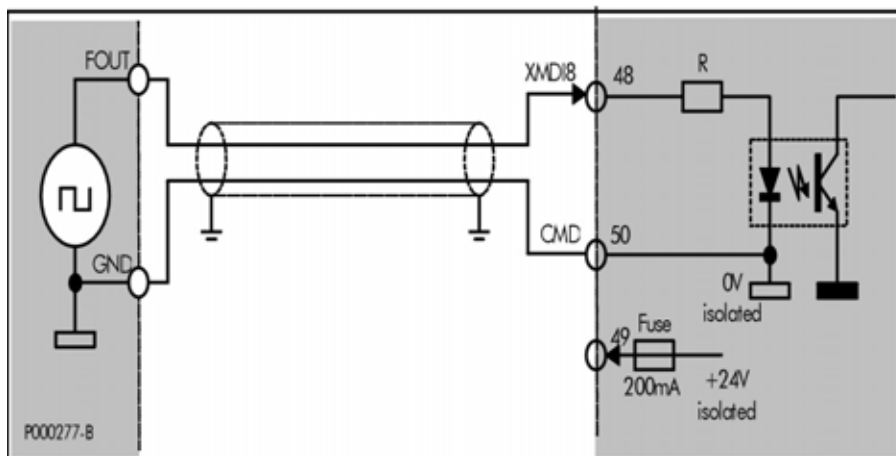

Figure 118: Signal sent from a 24V, Push-pull frequency output
Signals are sent from a 24V Push-pull output with a reference common to terminal CMD (50), as shown in Figure 118).